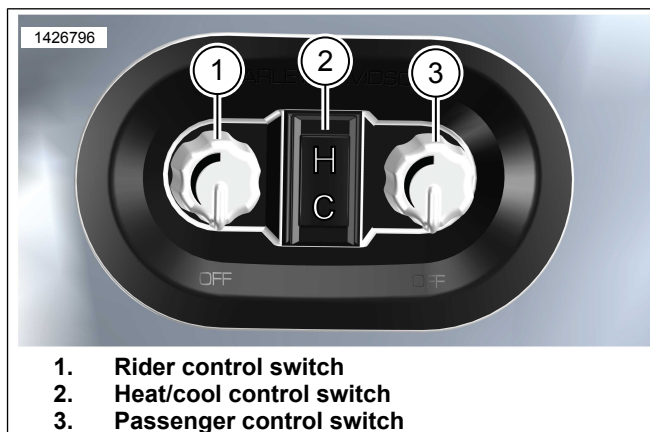

Figure 6. Seat Heating/Cooling Control Switches
1. Figure 6 Rotary switches (1,3):
- d. Rider control (1) is located closest to rider's seating position.
- e. Passenger control (3) is located closest to passenger's seating position.
- f. Lowest setting, first detent, turns seating position OFF regardless of setting on the other control or heat/cool switch (2).
2. Figure 6 Heat/cool switch (2):